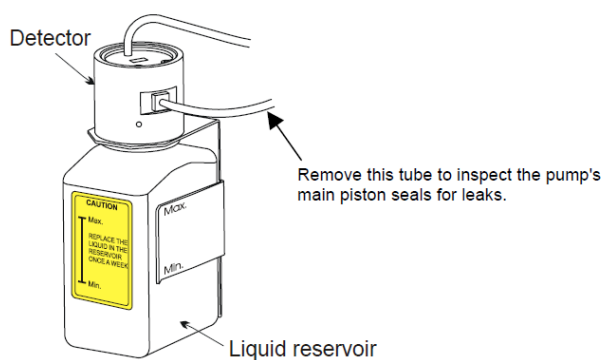

Figure 4. Liquid reservoir of the rear-seal wash system.
8.6.3. Remove the silicone tube from the detector of the rear-seal wash system (See Figure 4). Shake the tube to remove some of the liquid.